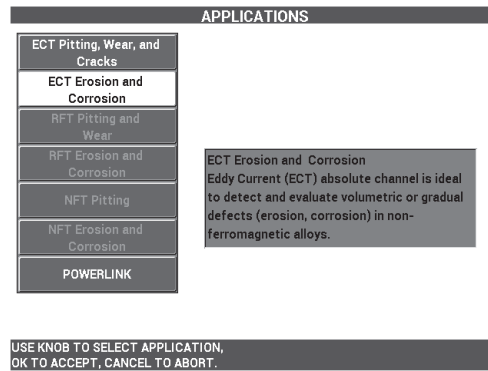

Figure 5-183 The ECT Erosion and Corrosion application
2. Select **CONTINUE** (press the A key), and then use the knob to select **ECT Erosion and Corrosion**, and press ✓ to accept (see Figure 5-183 on page 258).